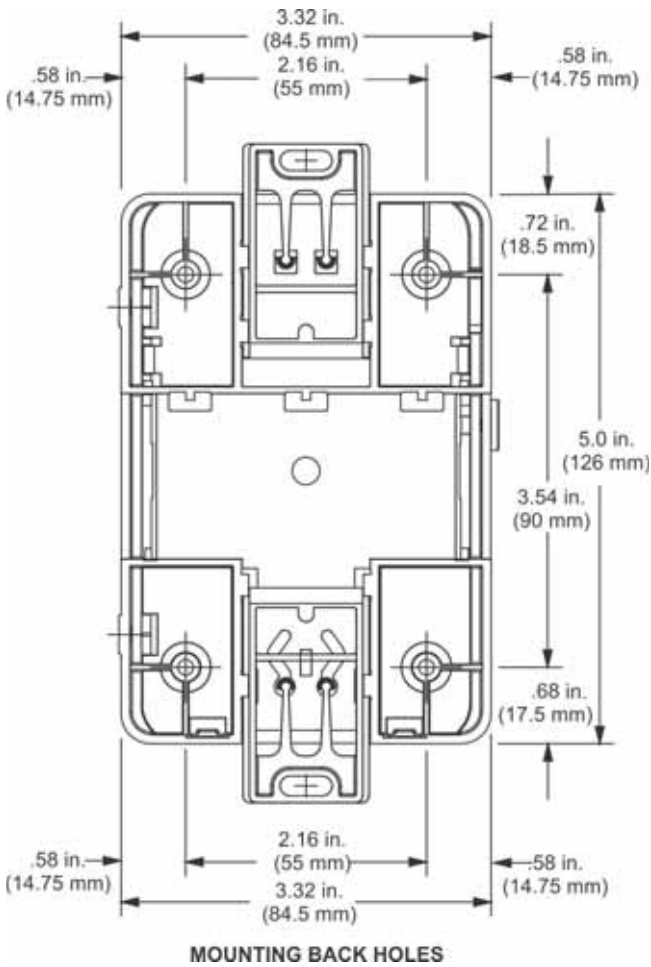
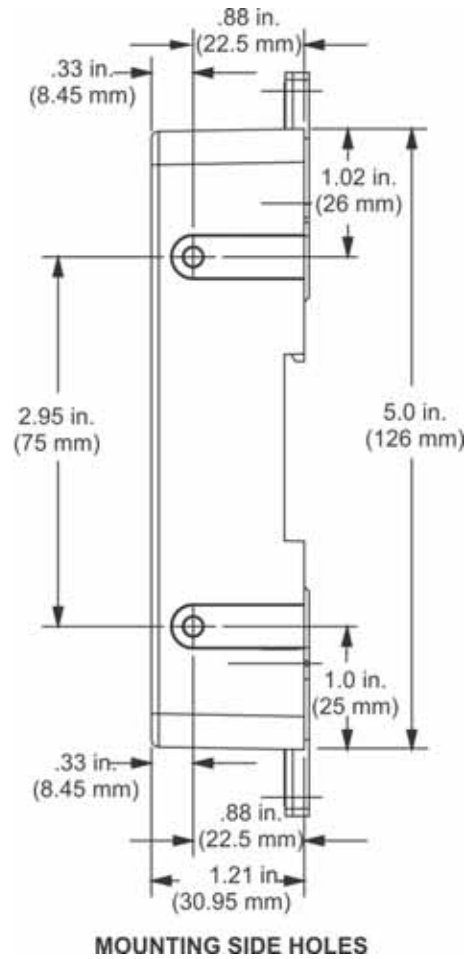
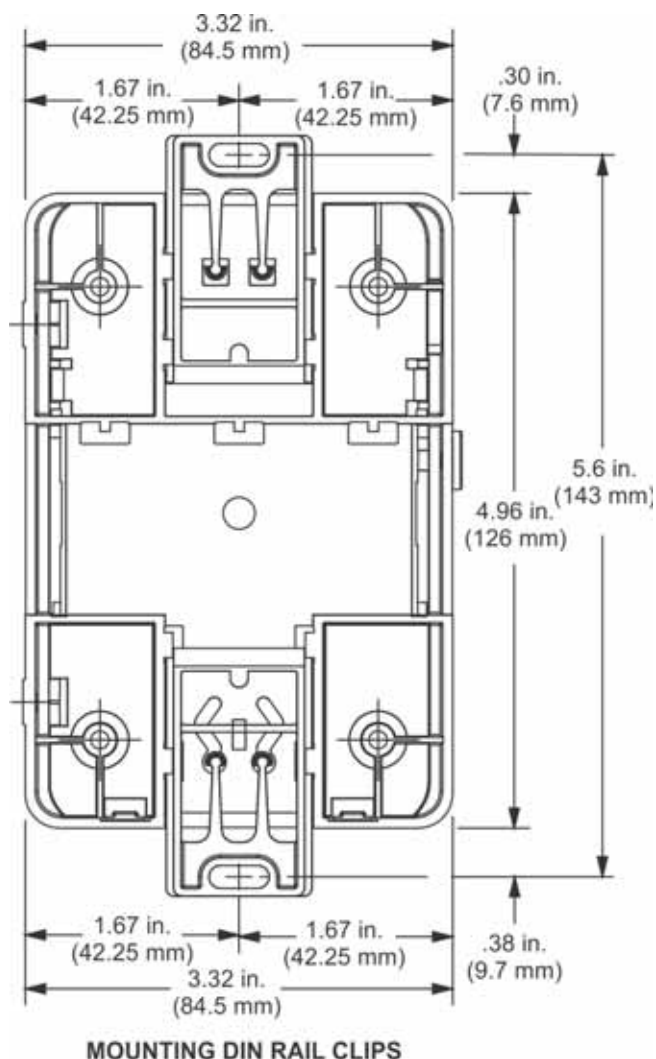

Figure 9: Mounting Holes, Flat Mounting
Figure 10: Mounting Holes, Side Mounting
Figure 11: Mounting Holes, Flat Mounting, DIN Rail Screws
The bracket may be mounted using screw holes on the back of the bracket (so that the unit is flat on its back), using the screw holes on the side of the bracket, or using the holes in the DIN rail clips. This orientation helps accommodate on-site constraints. Screw hole locations are illustrated in *Figure 9*, *Figure 10*, and *Figure 11*.
2. Mark mounting hole locations on the wall using the dimensions shown in *Figure 9*, *Figure 10*, or *Figure 11*; or hold the bracket against the wall and mark the hole locations through the mounting clips.